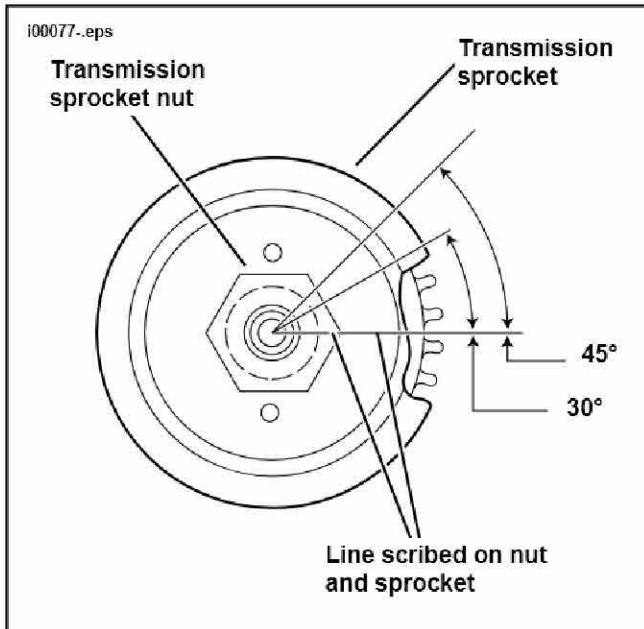

Figure 5. Transmission Sprocket Nut Final Tightening Procedure
- 7b. See Figure 5. Scribe a line on the transmission sprocket nut and continue the line on the transmission sprocket as shown.
- 7e. If lockplate will not align with holes, tighten nut to 45° maximum as shown in Figure 5.
8. Install two sprocket screws through two of the four holes in lockplate (4), then into two corresponding tapped holes in sprocket.